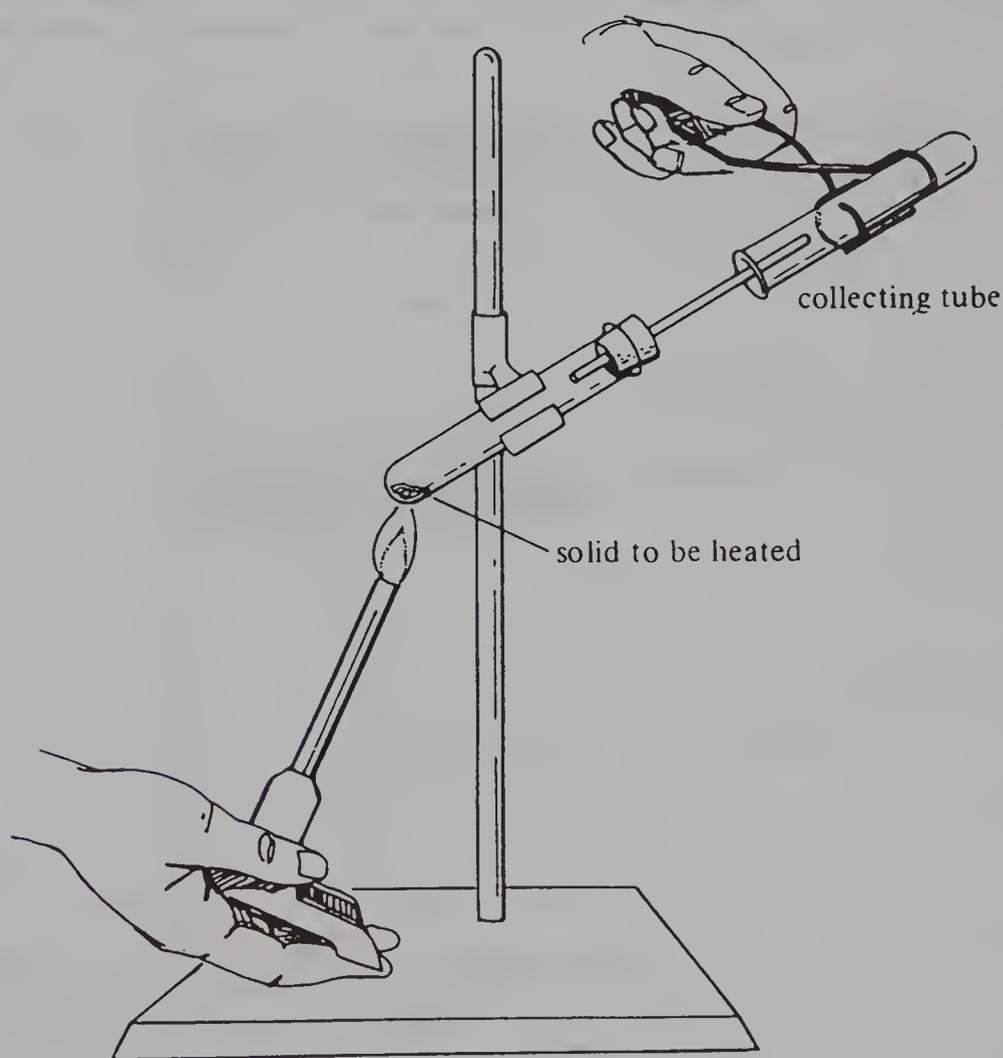

Figure 3-1. Apparatus for Heating a Solid
- a. Place 0.2 g or less of each of the following solids, one at a time, in a medium Pyrex test tube fitted with a rubber stopper and a length of glass tubing. **Do not use a large quantity of solid. Compare the quantity you take with that displayed in a labeled test tube.** Clamp the test tube on a ring stand and heat (gently at first and then quite strongly) with a handheld Bunsen burner as shown in Figure 3-1. Observe the solid before and after heating.